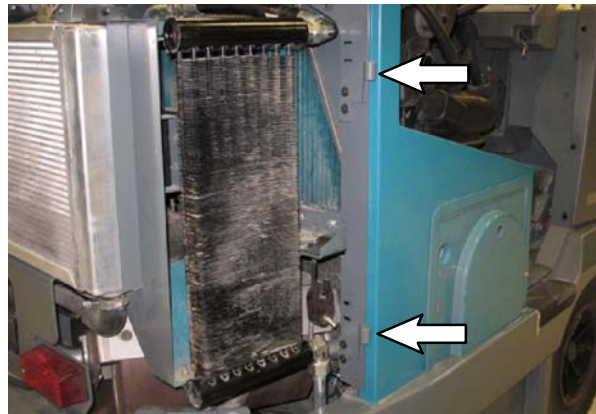

FIG. 64
79. Use two SEMS hex screws (11) and hex nuts (13) to install each right shroud hinge (47) onto the machine. Do not completely tighten hardware. Hardware is tightened during later adjustment. (Fig. 64)